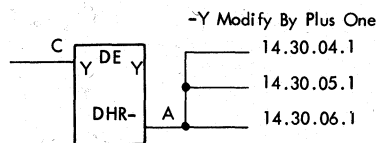

Figure 71. Multiple Outputs—Same Line Name
4. If a line leaves a page and goes to several pages, but carries the same line name, it can be shown as in Figure 71.